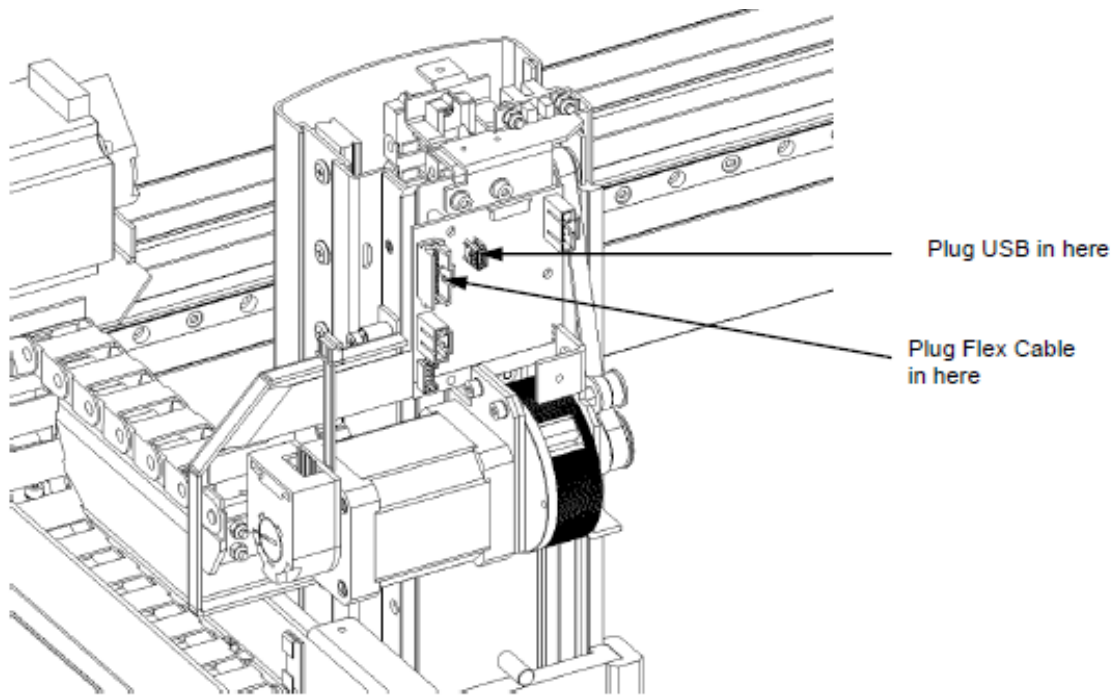

Figure Z-9: Removing Flex Cable and USB
10. Remove the Flex Cable and USB from the Y Drive Cable Chain into the PCB on the rear of the Z Drive (Figure Z-9).